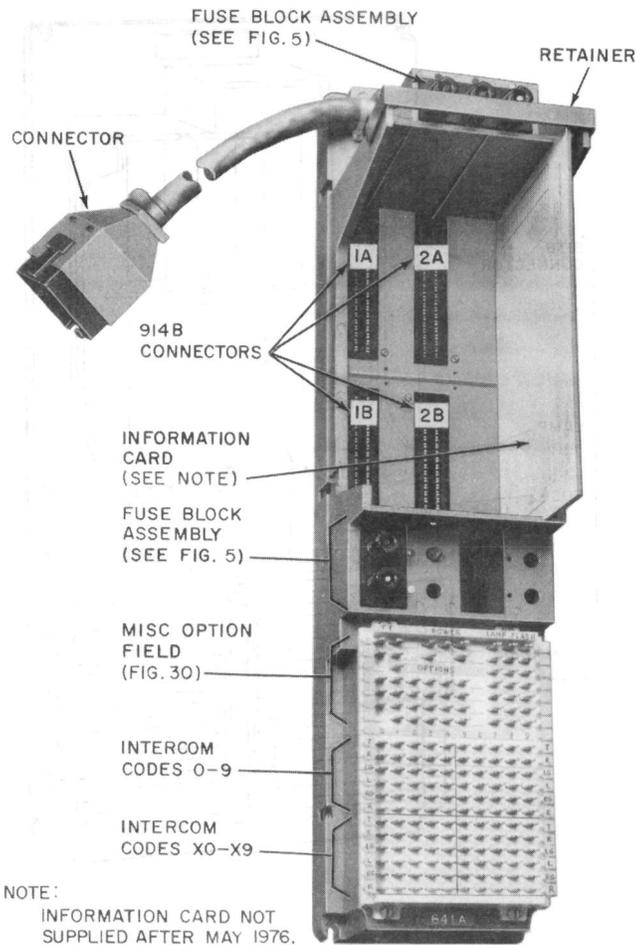

Fig. 3—641A Modular Panel
D. 641A Modular Panel (Fig. 3)
- Terminal field (YELLOW) utilized by all connectors for a common dial intercom service [NOT related to individual connectors by quadrants as on the 620A (MD), 620A2, and 642A panels]